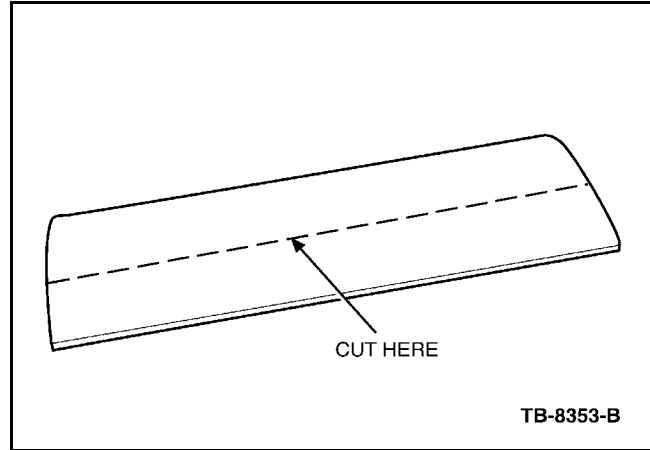

Figure 5 - Article 088-2005-5551
8. Obtain two (2) PVC soft foam adhesive stripes (164-R4901) from the Rotunda Squeak And Rattle Kit (164-R4900).
9. Cut both of the PVC soft foam adhesive stripes in half, lengthwise, so you have four (4) pieces 7/8" x 6" (22 mm x 152 mm) (Figure 5).